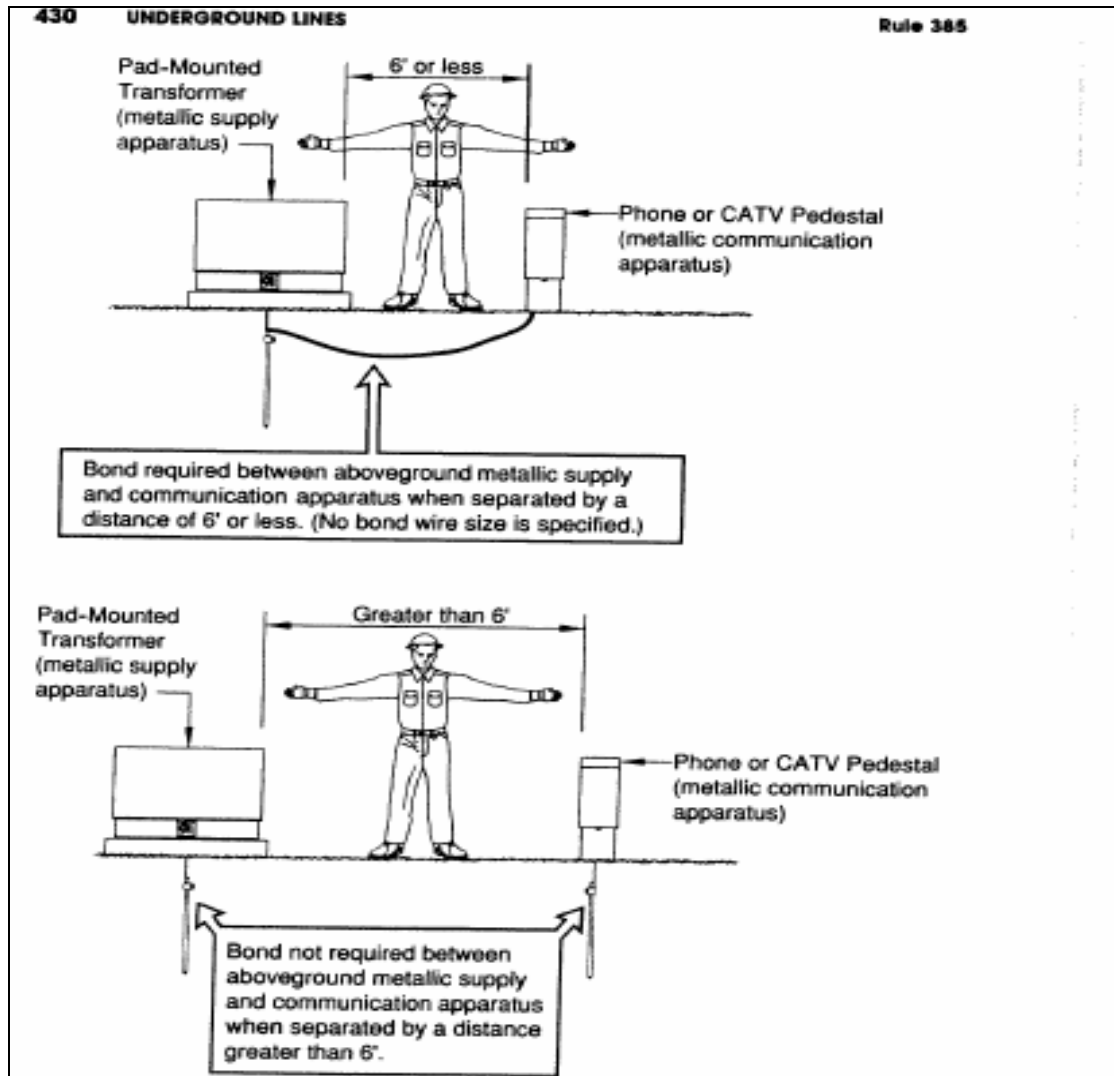

Figure 1
- 3.3 Underground NESC Rule 384C requires that above ground metallic power and communication apparatus such as pedestals or transformer cases that are six feet or less apart be bonded together. A bond is not required if the separation is greater than six feet. See Figure 1.